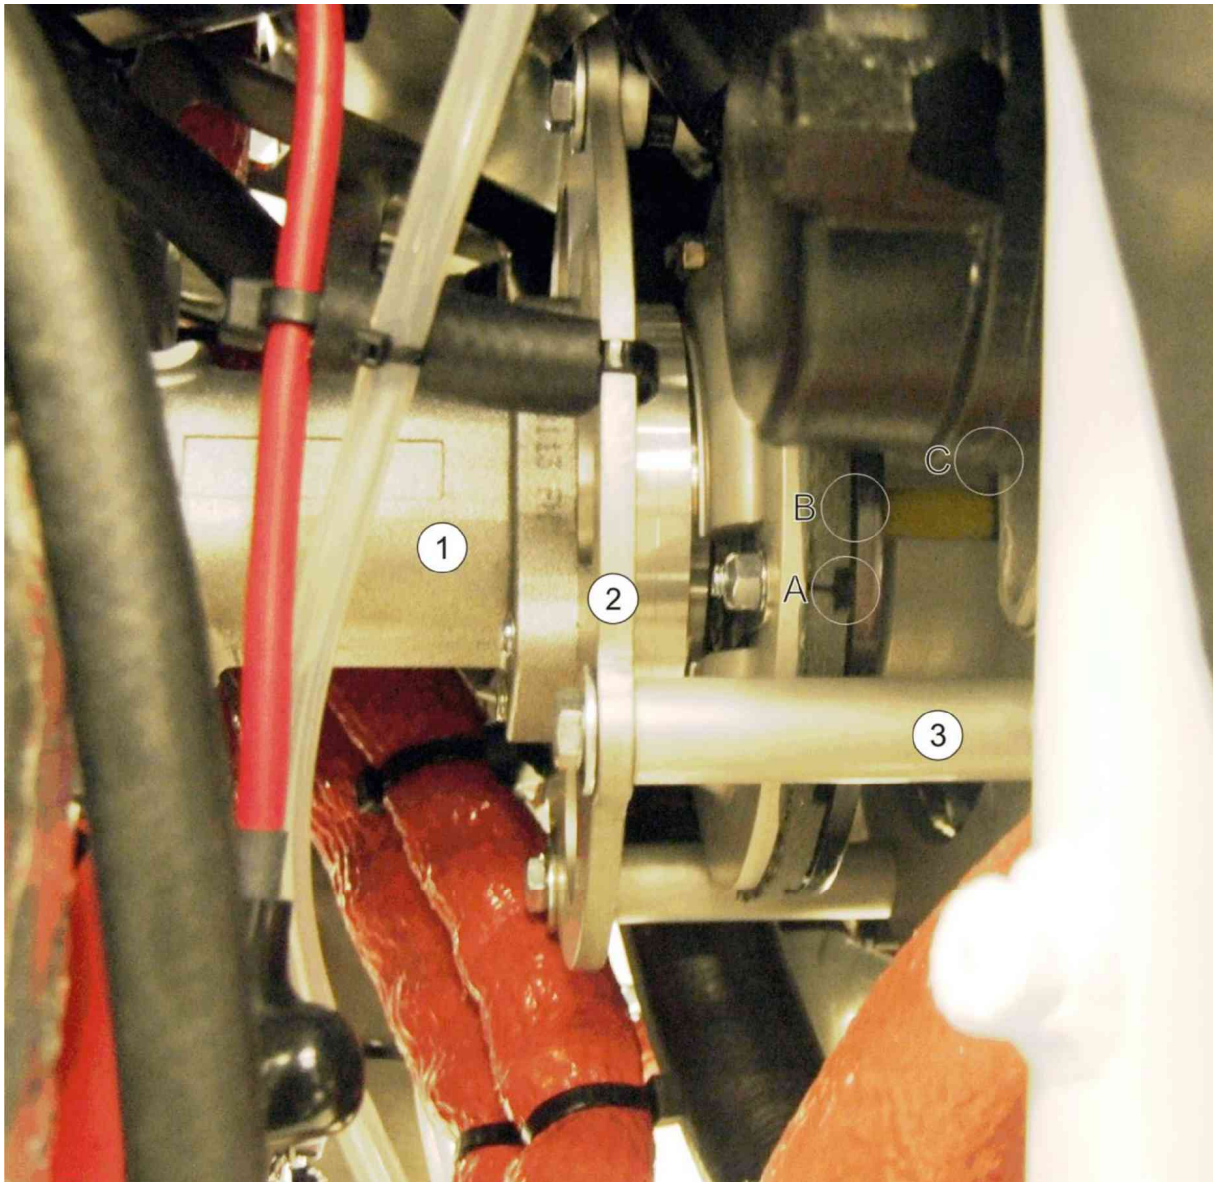

Fig. 1 - Pre-rotator clutch with attach ring
- 1 Check wear state of clutch lining. Wear mark (groove in the lining) must be recognizable. See Fig. 1, dimension A. Replace clutch if necessary.
- 2 Measure clearance between clutch lining and clutch plate. See Fig. 1, dimension B. Clearance must be between 1.0 - 1.5 mm. In case clearance is less than 1 mm or more than 1.5 mm contact AutoGyro customer support.
- 3 Measure clearance between inner (engine side) drive star disc and outer (clutch side) drive star claws. See Fig. 1, dimension C. Clearance must be between 1.0 - 1.5 mm. In case clearance is less than 1 mm or more than 1.5 mm contact AutoGyro customer support. **THIS IS NOW 0.5-1.0 mm**